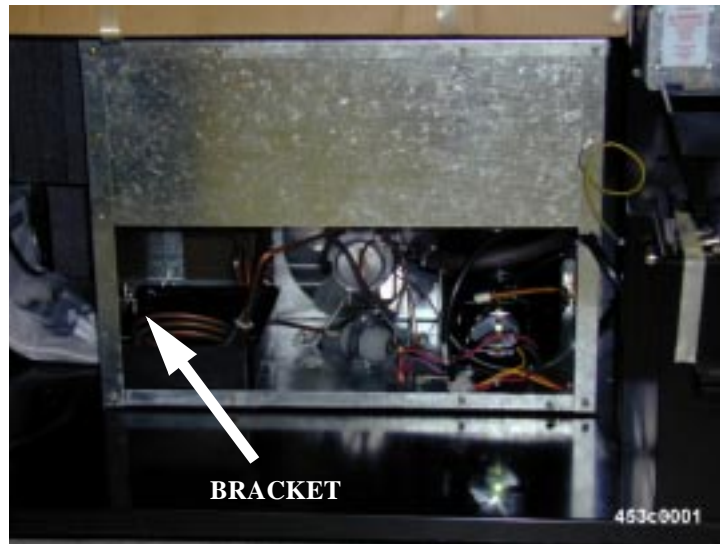

**Figure 1**
2. Remove the front panel of the refrigeration module and set aside (see figure 1).